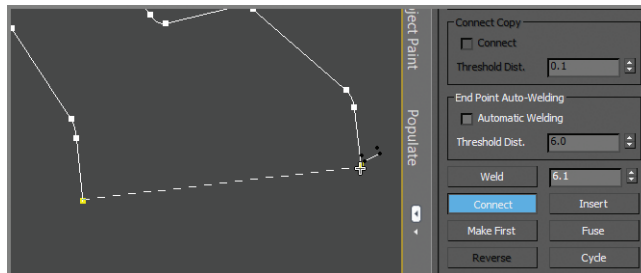

FIGURE 4.24 Use Connect to create a segment between the two separate splines.
21. Click and drag from one vertex to the other, as shown in Figure 4.24. Do the same for the other end of the frame.